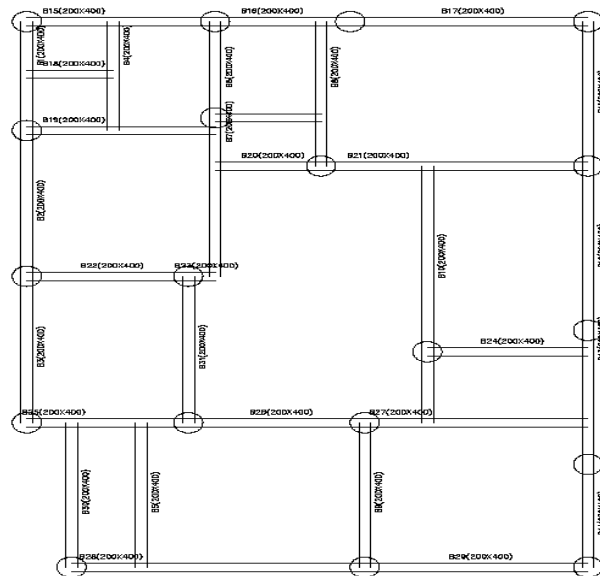

Fig 6.1.9
- Click on the **'Draw layout in cad'** from tool bar (Fig 6.1.9)